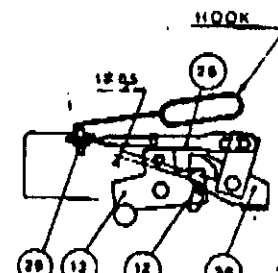
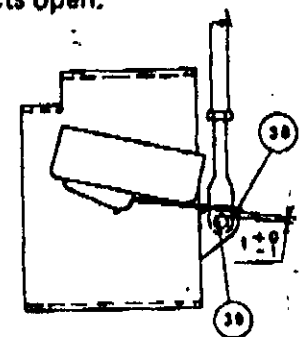

Fig. 17
Fig. 21
A. Tripping (Fig. 17 and 18)
- 1) Adjustment. Place breaker in open position and unscrew adjusting reset screw (30). With release bar in latched on position resulting from breaker being in open position, adjust linkage (26) to provide 1 ± 0.5 mm (0.039 ± 0.020 inch) between lever (28) and lug (12) of
A. Limit switch for Latch Indication. Place bar in latched position as shown in Fig. 17 and 18. In this position, the limit switch contacts will be closed. Deform strip (38) Fig. 21 to provide maximum gap setting of 1 mm (0.039 inch) between strip (38) and lug (39). NOTE: This adjustment must be performed without applying voltage to the undervoltage holding coil. Following adjustment, operate voltage release device permitting release bar to unlatch. Inspect limit switch to see the contacts open.